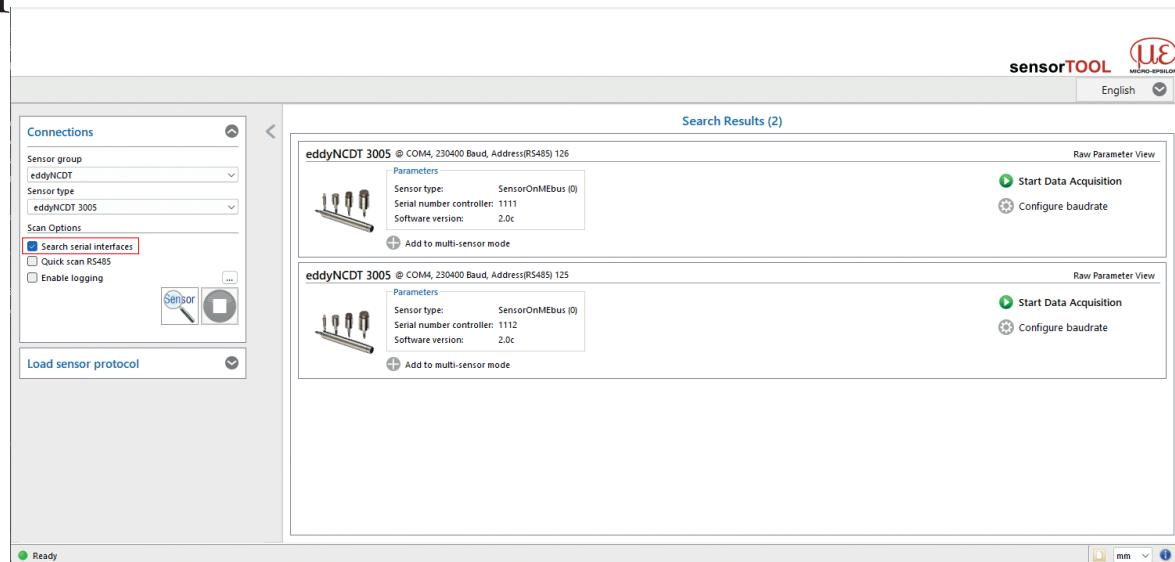

Fig. 15 First interactive site after calling the sensorTOOL
- i Please note that the checkbox Quick scan RS485 must be deactivated, see Fig. 15 to find multiple channels.